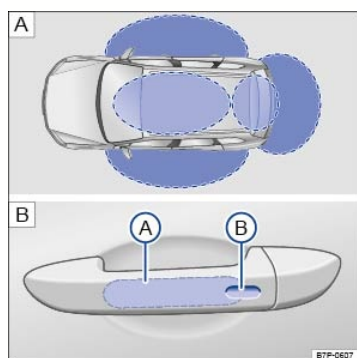

Fig. 62 Keyless Access system: System ranges. Unlocking and locking sensors on the outside door handles.
Key to ⇒ Fig. 62 :
Your vehicle may be equipped with Keyless Access with push-button start, a keyless starting and locking system that unlocks and locks the vehicle without active use of a remote control vehicle key. All you have to do is touch a sensor surface on one of the front outside door handles ⇒ Fig. 62 or press the button below the Volkswagen emblem on the trunk lid ⇒ Trunk lid when a valid remote control vehicle key is within range ⇒ .
When a valid vehicle key comes within range ⇒ Fig. 62, the Keyless Access system recognizes a valid vehicle entry request as soon as a door handle sensor is touched on the driver or front passenger door or the button below the Volkswagen emblem on the trunk lid is pressed. The following functions are then enabled without active use of the remote control vehicle key:
- **Easy Open:** Open the trunk lid by moving your foot within the sensor's range under the rear bumper ⇒ Fig. 62 ⇒ Power operation of the trunk lid.
If a valid remote control vehicle key is within range, ⇒ Fig. 62 the trunk lid can be opened, even if the vehicle is locked.